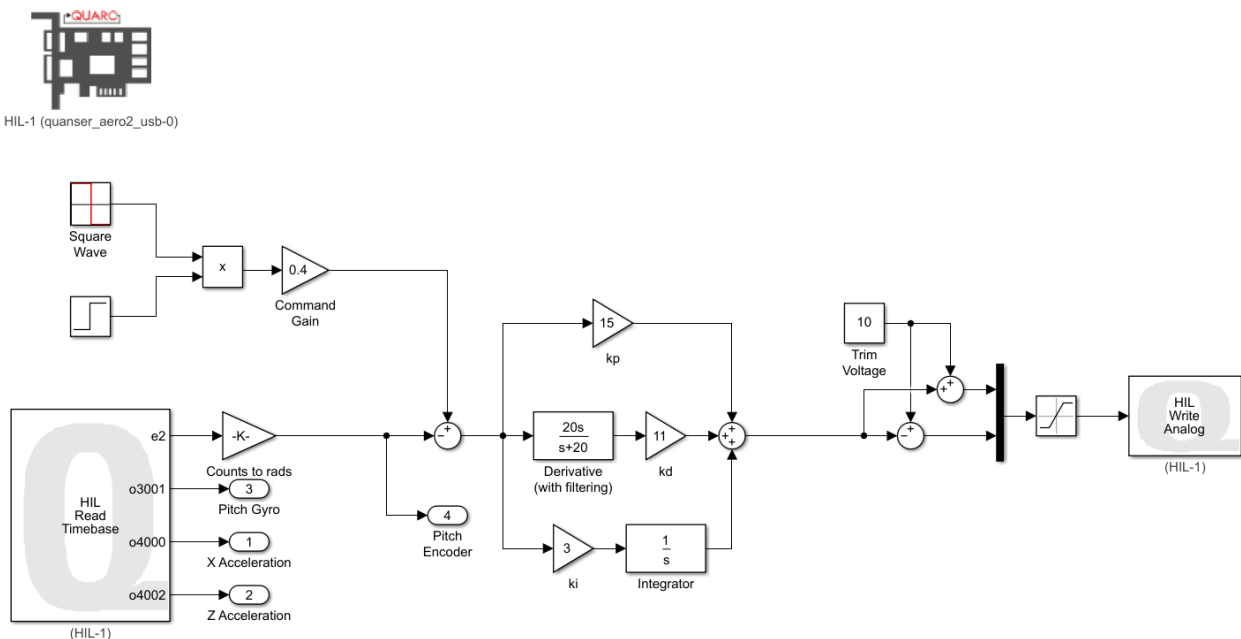

Figure 1: PID controller for the Aero 2 thrusters
1. Open the project *q\_aero2\_measurement\_filtering.mdl* via MATLAB. It should resemble Figure 1. This model is a PID controller for the thrusters of the Aero 2.